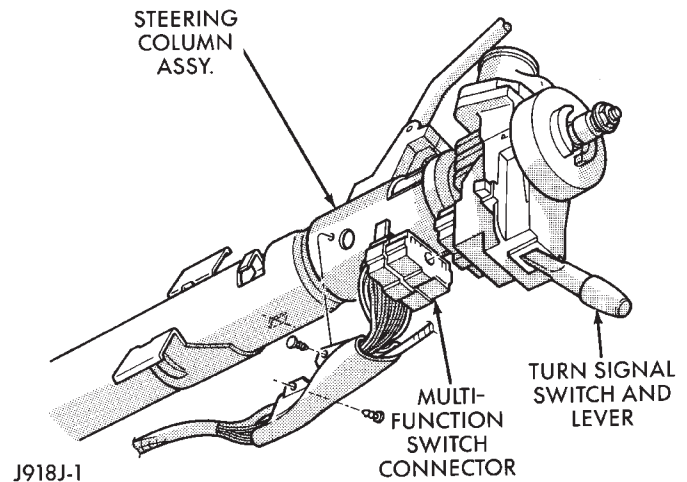

Fig. 15 Multi-Function Switch Connector - Typical
- (10) Remove the lower fixed column shroud.
- (11) Loosen the nuts that secure the steering column upper mounting bracket to the dash panel steering column support bracket studs. Lower the column far enough to move the upper fixed column shroud.
- (12) Move the upper fixed column shroud far enough to access the rear of the multi-function switch (Fig. 15).
- (13) Remove the tamper proof mounting screws (a Snap On tamper proof torx bit TTXR20B2 or equivalent).